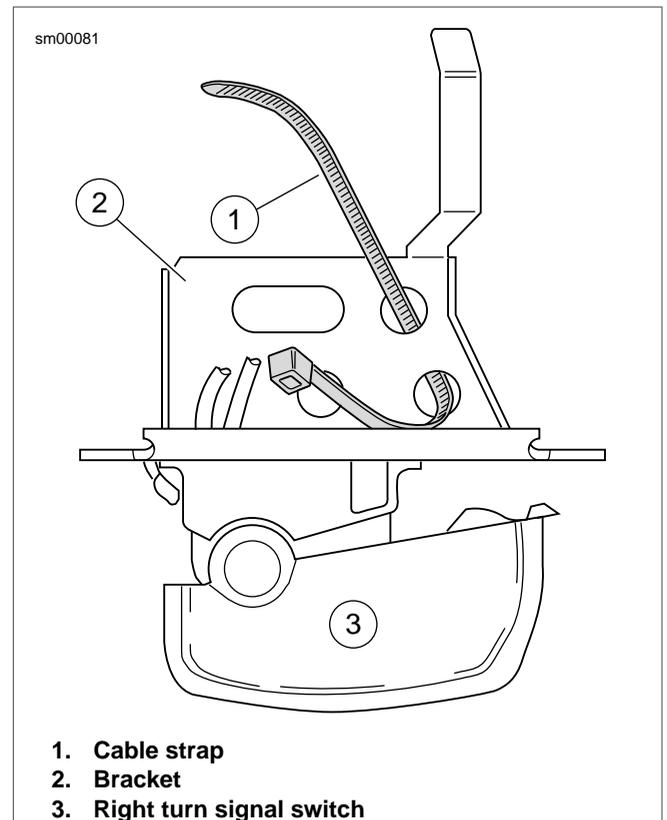

Figure 8-135. Insert Cable Strap in Switch Bracket
- Insert tapered end of **new** 7.0 in. (178 mm) cable strap into round hole in turn signal switch bracket and then feed back through using adjacent hole. Reserve oblong hole for bracket screw. See Figure 8-135.